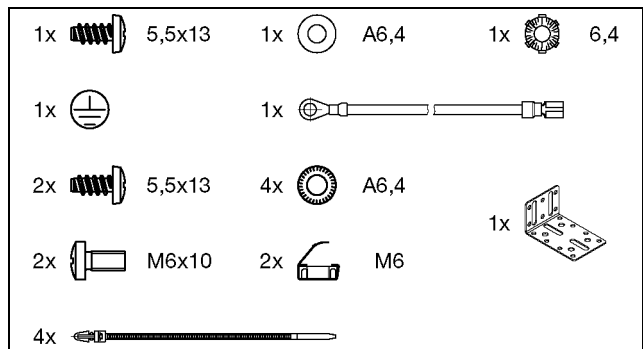
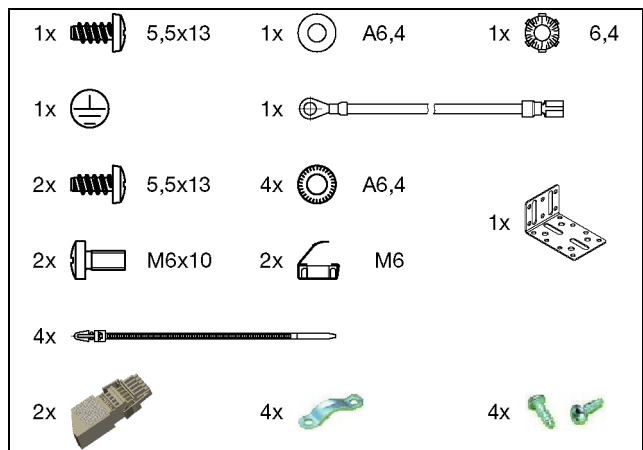
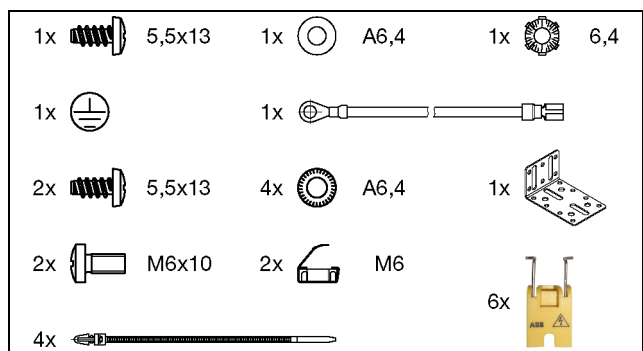

Fig. 1: Accessories supplied loose, PSM busbars 7856.005 and 7856.006
Fig. 2: Accessories supplied loose, PSM busbars 7856.008, 7856.010 and 7856.020
Fig. 3: Accessories supplied loose, PSM busbars 7856.321 and 7856.323
- Accessories supplied loose (fig. 1, fig. 2 and/or fig. 3)